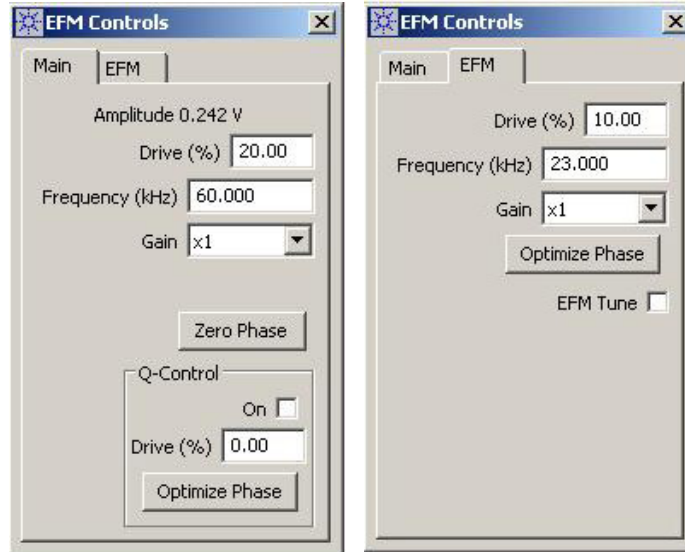

Figure 105 EFM Controls window
- 6 Choose **Controls > Advanced > AC Mode**. The EFM Controls window will open (Figure 105).